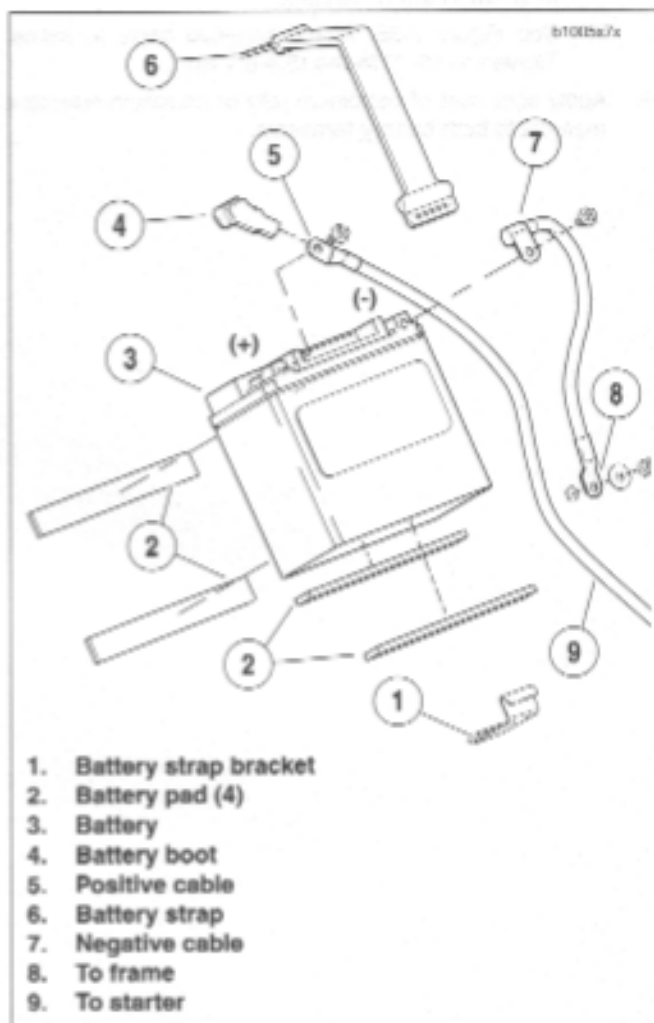

Figure 7-35. Battery
- See Figure 7-35. Disconnect negative and positive cables from battery, negative cable first.
- See Figure 7-35. Positive battery cable runs from starter to positive battery terminal.